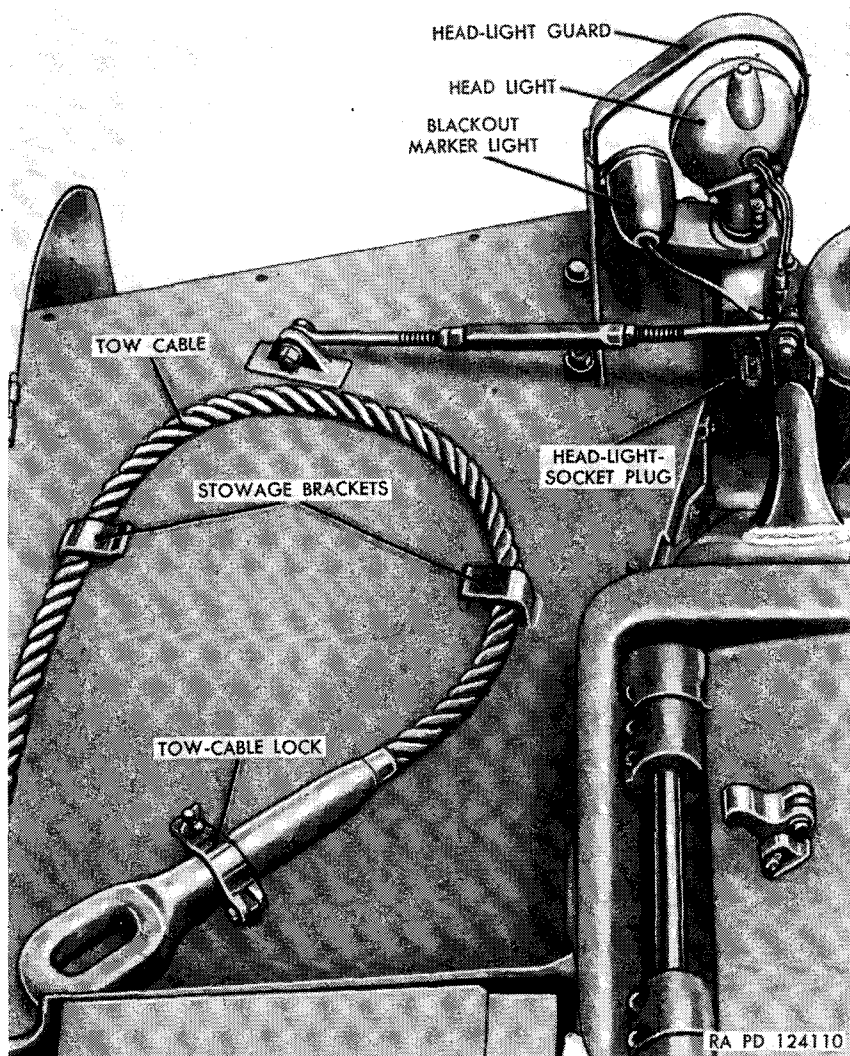

Figure 41. Left head light and tow cable.
a. Curl the front end of the tow cable on top of the left-front fender, making a loop to the right to bring the cable end around toward the back of the fender (fig. 41). Spread the loop out so that cable is not kinked in any way, and so that there is room on the fender for all of the slack portion of the cable to lie flat. Locate the cable lock and bracket on top of the fender with the lock around the cable end, and mark on the fender the position taken by the bracket. Hold the two guide clips (shipped in the bulldozer kit) down on the fender at opposite sides of the cable loop near the front, so that they will serve to retain the cable on the fender, and mark the positions of these brackets.